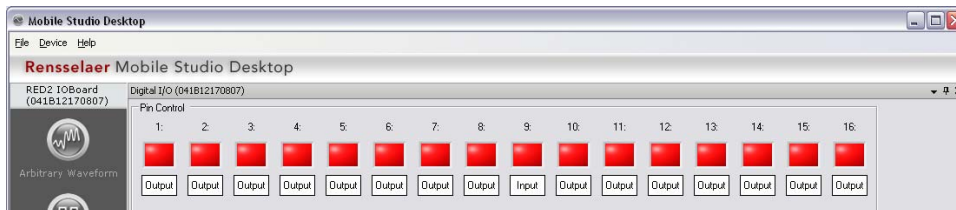

Figure 5-1: Input/Output Toggle
- 2) Each of the digital channels can be used as either input or output ports for information. By clicking on the box labeled “Output” under any channel, it toggles to being an input and displays “Input” under the channel selected, as shown in Figure 5-1 for Channel 9.